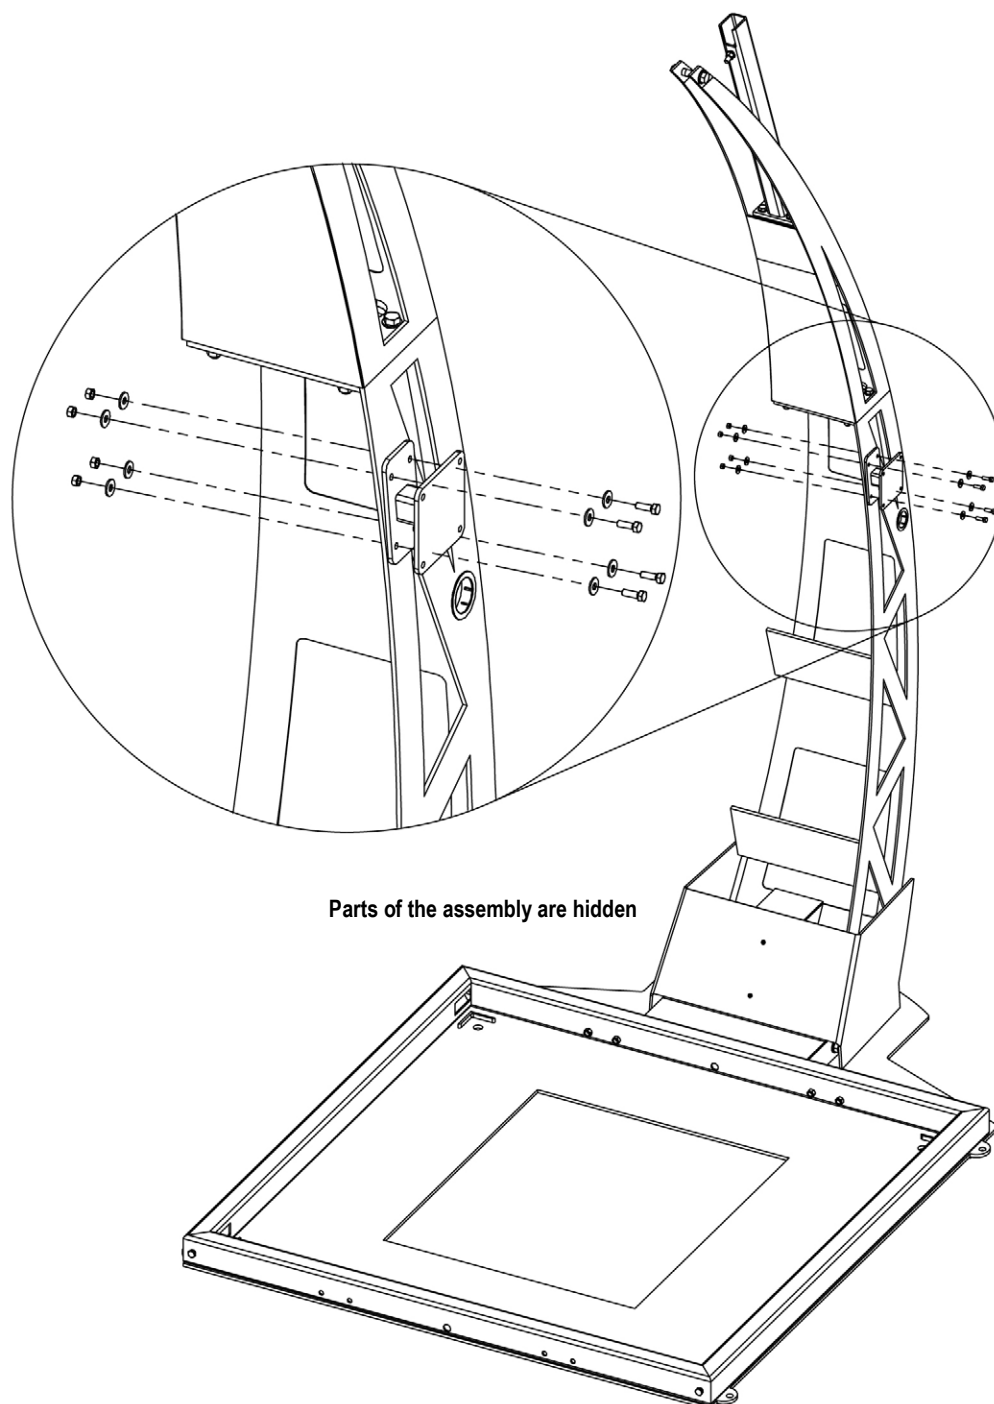

Figure 3-12. Kiosk Mount Bracket
**NOTE:** The kiosk mount may be installed on either side of the lower tower assembly. If the kiosk mount is installed on the opposite side of the assembly shown in Figure 3-12, the kiosk mount must be rotated 180°.